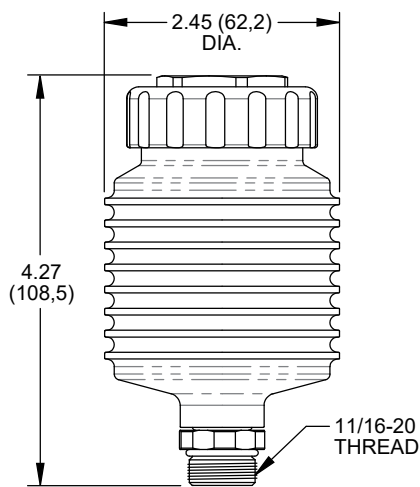

Figure 1.
•For mounting dimensions of reservoirs and brackets, see Figures 1 thru 3 on next page.